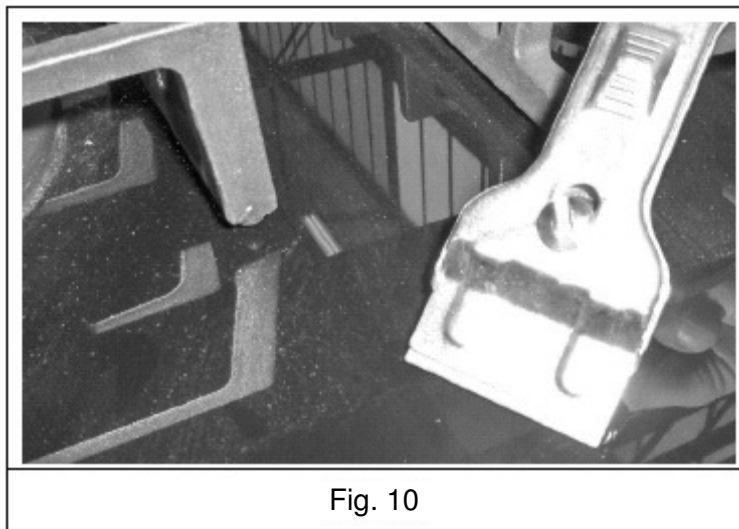

Fig. 10
- Tough, encrusted dirt is easily eliminated using a scraper (Fig. 10), not supplied with the cooktop, but easy to find in local stores. ***Use the scraper carefully to avoid damaging the cooktop.***